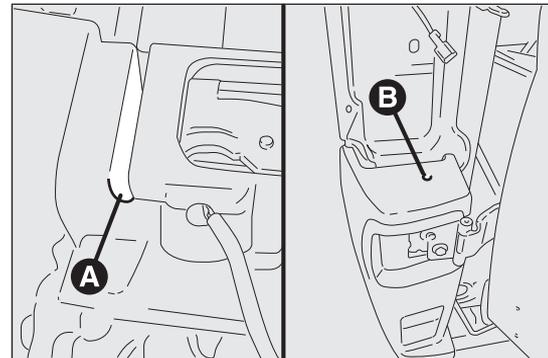

fig. 201
- unscrew lower fastening A between central and side bumper fig. 201 ;